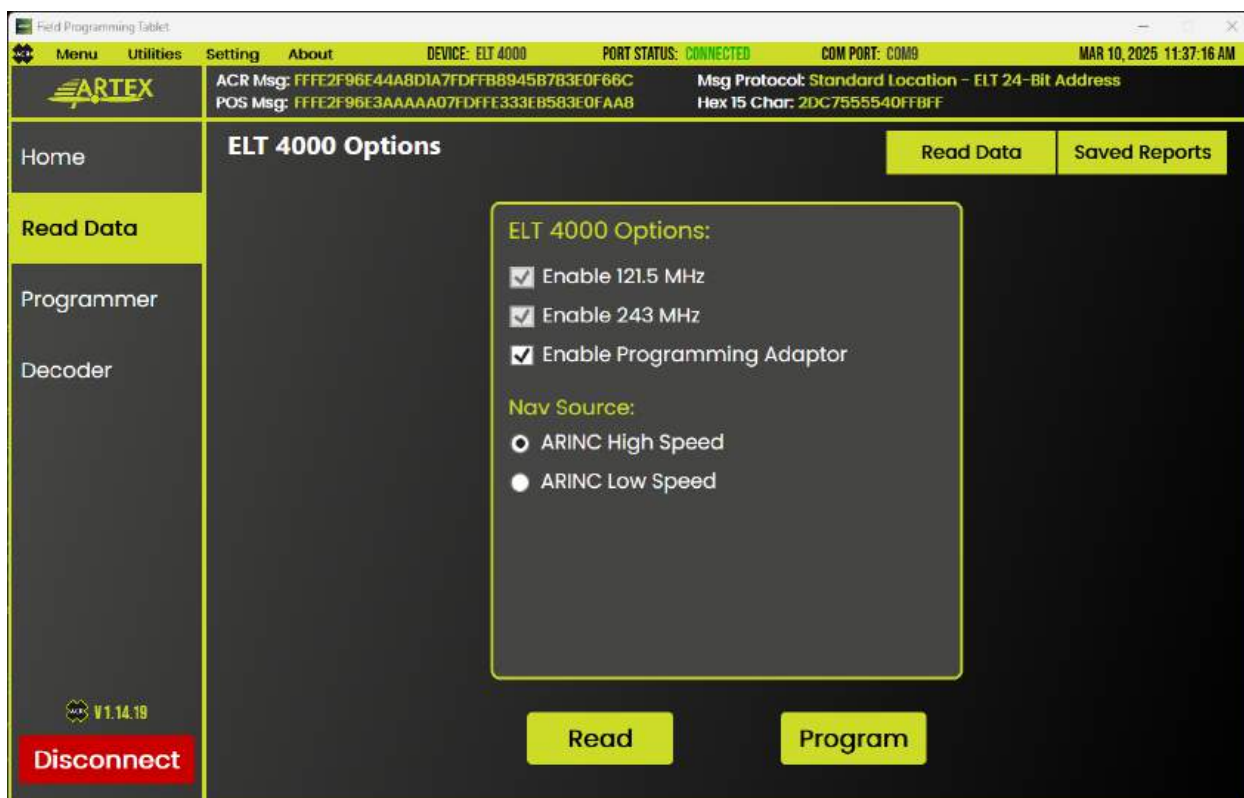

Figure 14 - FPT Read Data Screen (ELT 4000 Series)
5. The ELT 4000 Options page (Figure 14) displays the currently programmed ELT 4000 configuration options.